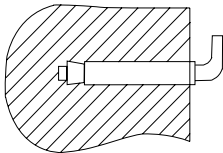
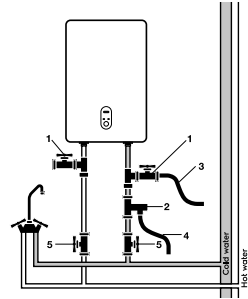

Fig. 4. Mounting anchor for mounting.
Fig. 5
- Connect the drain hose (item 3 in Fig. 5) to the shutoff valve.
facilitated by the possibility to install them both vertically and horizontally anywhere in your home, in a heated (!) room. It is advisable to install the heater as close as possible to where the hot water is used, because the shorter the length of the pipes, the less heat is lost. As shown in Fig. 5. When installing the heater close to a wall, leave the recommended clearance for maintenance. Do not install the heater on a horizontal surface and up against the floor. After selecting the mounting location, locate the two fastening bolts with hooks (depending on the specifications of the selected product). Make two holes in the wall to the required depth corresponding to the size of the mounting bolts, insert the screws, rotate the hook upwards, tighten the nuts firmly and then install the electric water heater on it (see Fig. 4). If the bathroom is too small to accommodate the water heater, it can be installed in any other room, protected from direct sunlight and rain.
If you want to implement a water supply system for several water points, use the connection method (see Fig. 5).